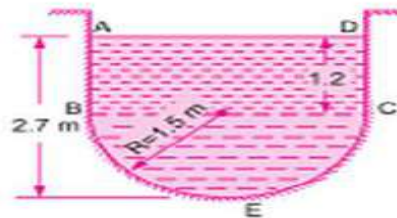

Fig. 16.5
5. Find the discharge through a channel show in fig. 16.5. Take the value of Chezy's constant $C = 55$. The slope of bed of the channel is 1 in 2000